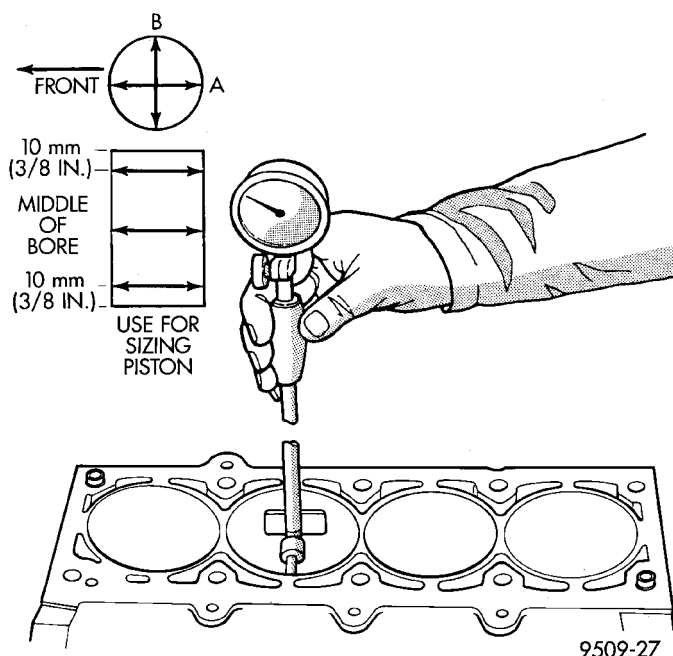

Fig. 102 Checking Cylinder Bore Size
(3) Measure thickness and diameter of outer rotor. If outer rotor thickness measures 7.64 mm (0.301 inch.) or less (Fig. 102), or if the diameter is 79.95 mm (3.148 inches) or less, replace outer rotor.